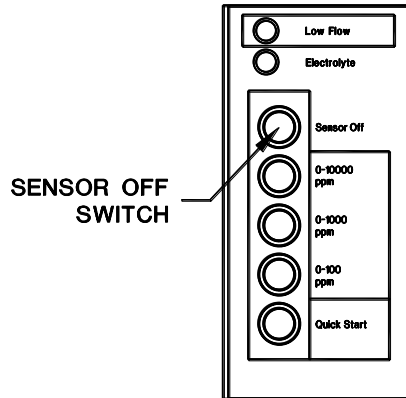

Figure 2: Sensor Off Switch
4. Be sure the Sensor Off switch is *not* depressed (OFF). See Figure 2